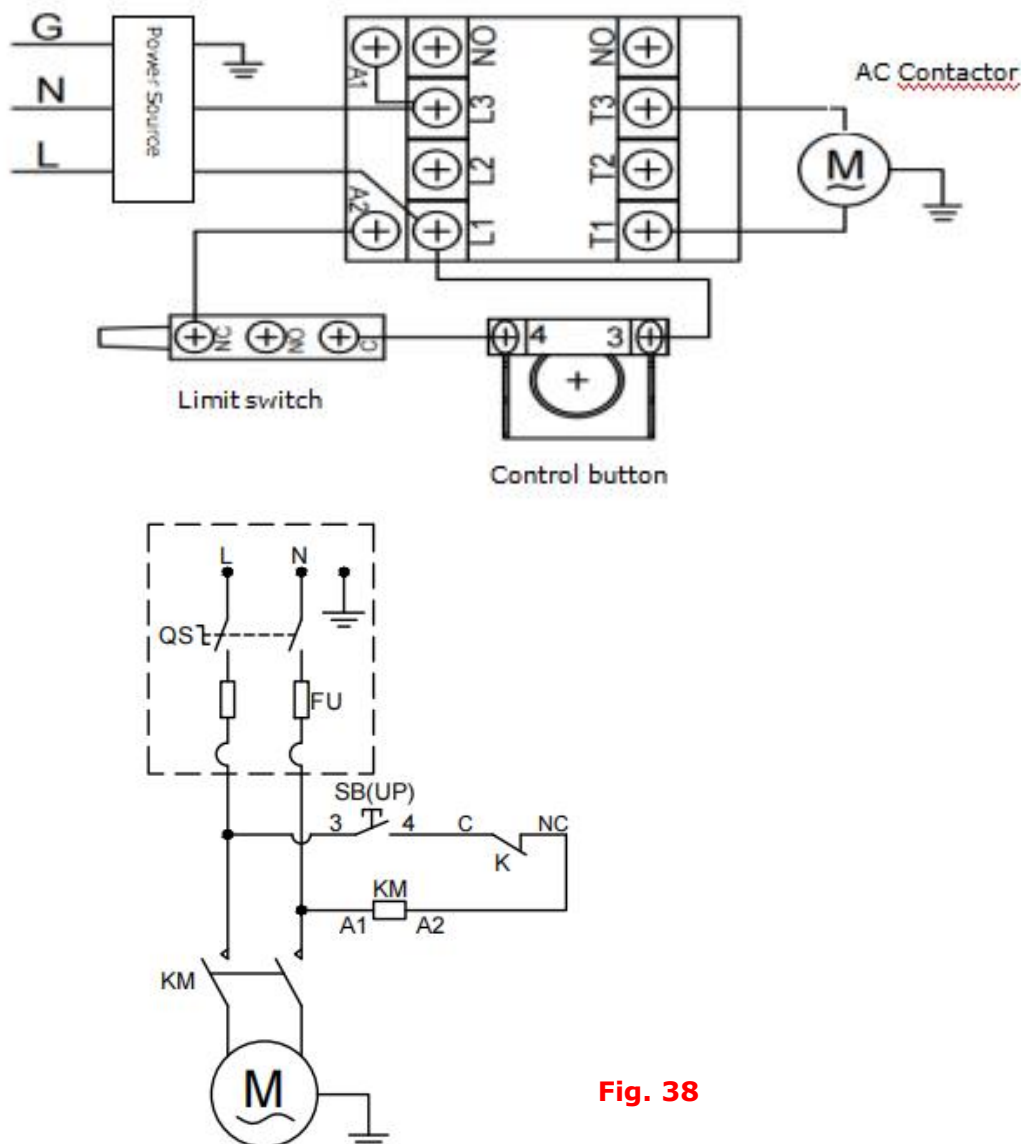
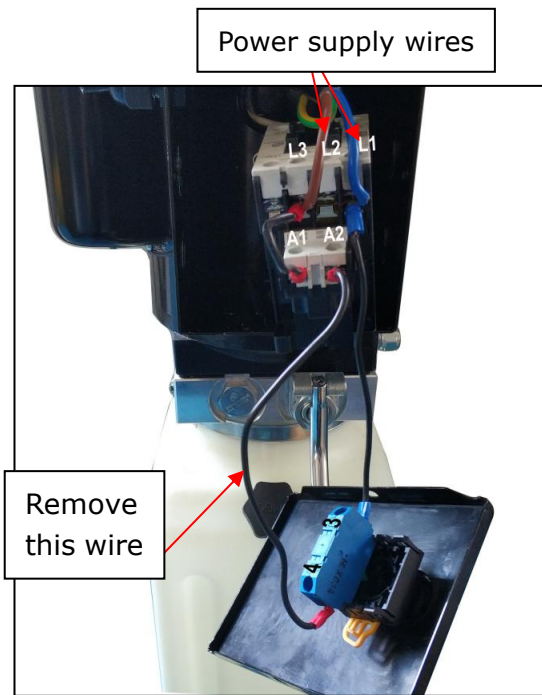

Fig. 38
Fig. 39
Single phase motor (See Fig.38)
2. Connecting Limit switch: Remove the short wire connecting terminal 4# of control button and A2 of AC contactor firstly (See Fig.38). Then connect wire C#(black wire) of limit switch with terminal 4# of control button and connecting wire NC#(red wire) with terminals A2 of AC contactor respectively. (See Fig. 39)